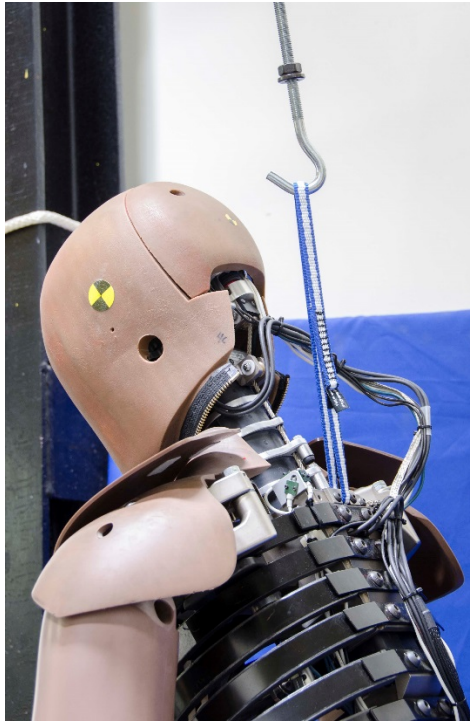

Figure 2-4. Lifting THOR-50M
- 2.2.1.3 Use the THOR-50M lifting strap when handling and/or lifting the dummy (Figure 2-4).